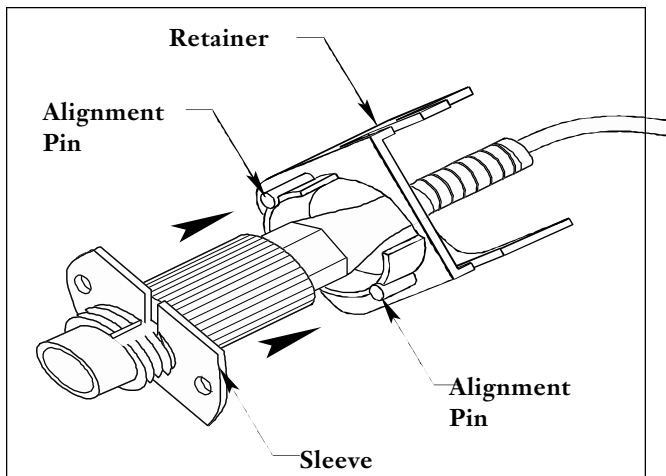

Figure 15
11.7 To reinstall a connector, re-attach it to the connector sleeve and position the assembly against the retainer so that the pins in the retainer hold the assembly in place (Figure 15). Slide the connector assembly into the module and push down on the retainer to snap it into place. Slide the connector retainer yoke back into position.